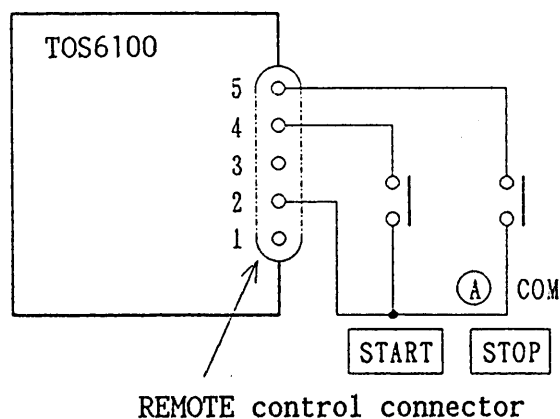

Figure 4.3
(1) The start/stop operation of the Tester can be remote-controlled by using an optional Remote Control Box. When the plug of connection cable is inserted into the REMOTE socket on the front panel, the start/stop operation can be controlled both from the panel and from the Remote Control Box. The start/stop operation of the Tester can be controlled not only by the Remote Control Box but also by other devices as explained in the following paragraphs:
- ① If the start and stop contacts are controlled as shown in Figure 4.3, the start/stop operation can be controlled in the same way as it is controlled on the panel.
- ③ The contacts in Figure 4.3 can be replaced with logical elements, transistors, FETs, or photocouplers. Figure 4.5 shows an example of using photocouplers. In this case, the input conditions for the Tester are as follows:
- ④ To prevent the system from operating erroneously because of noise, photocouplers (as shown in Figure 4.5) or relays (as shown in Figure 4.3) are recommended as the devices to be connected to the Tester. The Tester is designed to operate correctly even if noise may be generated by the Tester itself or by its peripheral equipments, but take measures against the noise that may cause erroneous operation of the devices connected to the Tester.